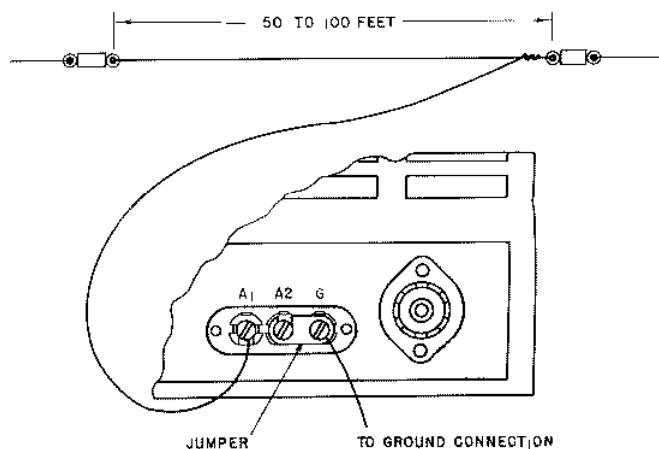

Figure 2. Single Wire Antenna Installation.
**ELECTRICAL DESCRIPTION.**—The block diagram, Figure 2, illustrates the function of the receiver circuits in a simple manner which is described as follows: radio signals are picked up at the antenna and fed to the antenna coil of the r-f stage where the desired station signal is selected by a resonant circuit and fed to the mixer-oscillator tube.